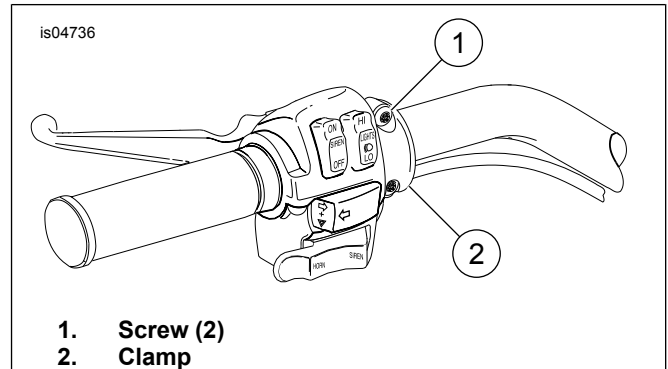

Figure 1. Left Side Controls
2. See Figure 1. Remove and discard the two screws (1) with a T27 TORX drive head, remove flat washers securing the left handlebar clamp to the clutch lever bracket. Remove the clamp (2) and position the clutch hand lever assembly away from the handlebar. Discard the clamp.